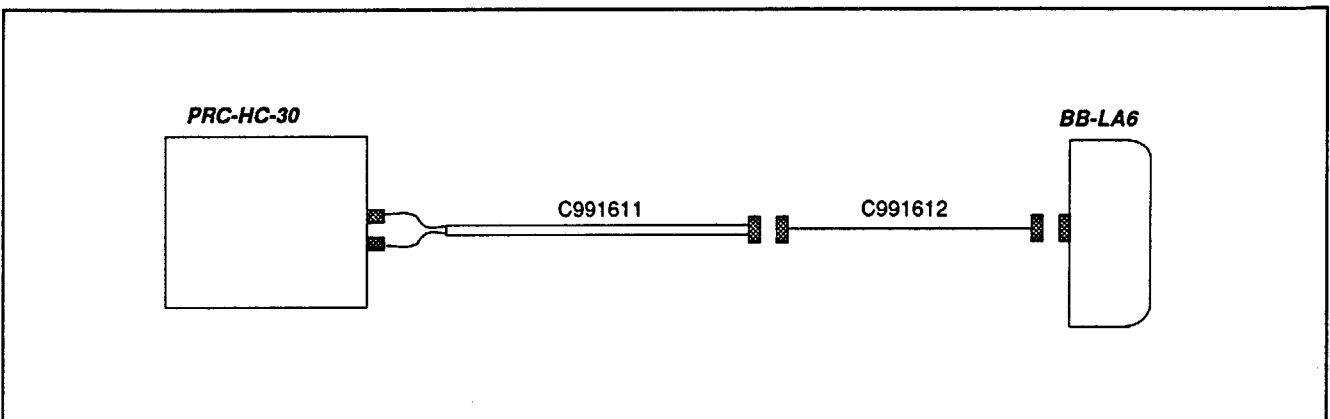

FIGURE B-5.
b. If it is necessary to charge a battery directly from the PRC-HC-30 (Figure B-5):